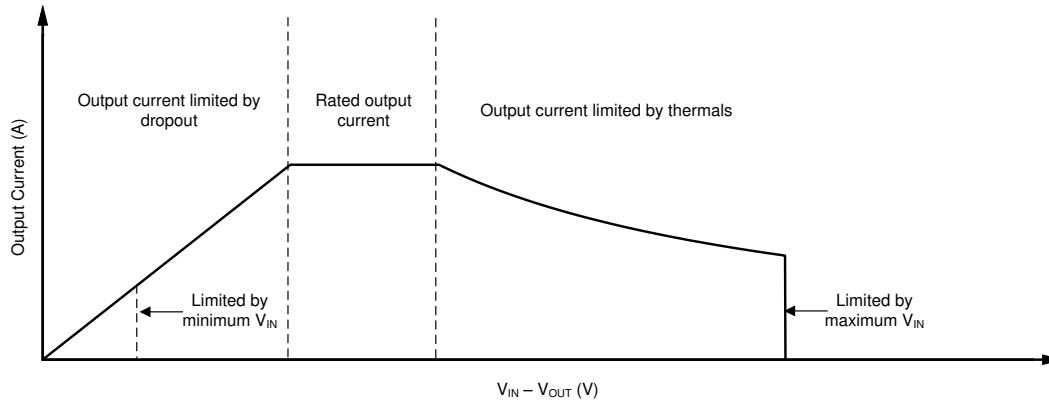

Figure 8-3. Region Description of Continuous Operation Regime
The operational area of an LDO is limited by the dropout voltage, output current, junction temperature, and input voltage. The recommended area for continuous operation for a linear regulator is given in Figure 8-3 and can be separated into the following parts:
- The shape of the slope is depicted in the third region of Figure 8-3. The slope is nonlinear because the maximum-rated junction temperature of the LDO is controlled by the power dissipation across the LDO. Thus, when  $V_{IN} - V_{OUT}$  increases the output current must decrease.
Figure 8-3 shows the recommended area of operation for this device on a JEDEC-standard high-K board with a  $R_{\theta JA}$ , as given in the *Thermal Information* table.